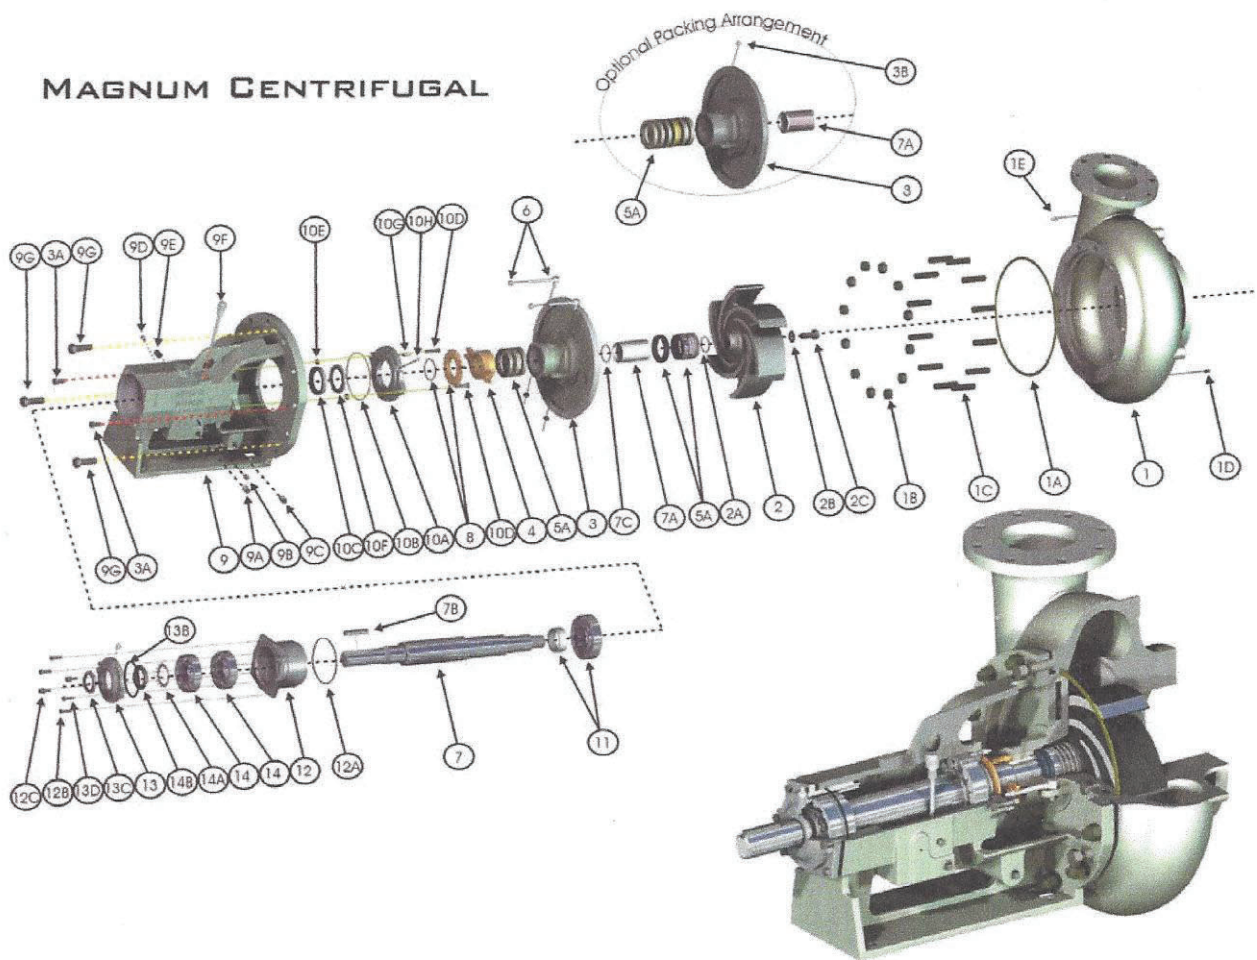

Figure 5
Numbers following part name refer to the part as shown on the cross-sectional drawing (Fig. 5, Pg. 21).
G. ASSEMBLY FIGURES 5 THRU 9
G. ASSEMBLY FIGURES 5 THRU 9(Continued)...